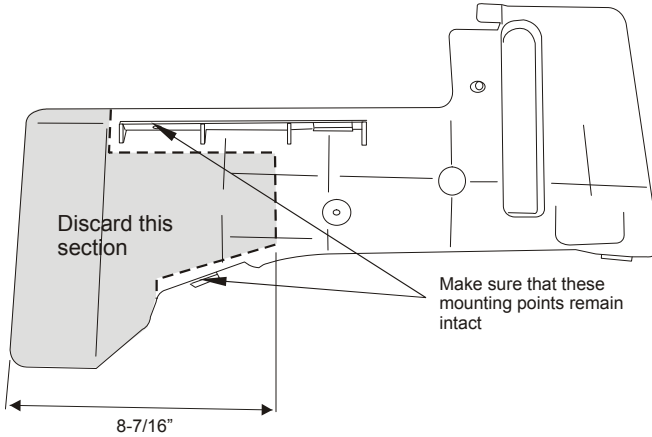

Figure 2.3
- Remove the plastic splash guard that holds the front passenger side inner fender and cut out the section as shown in Figure 2.3.